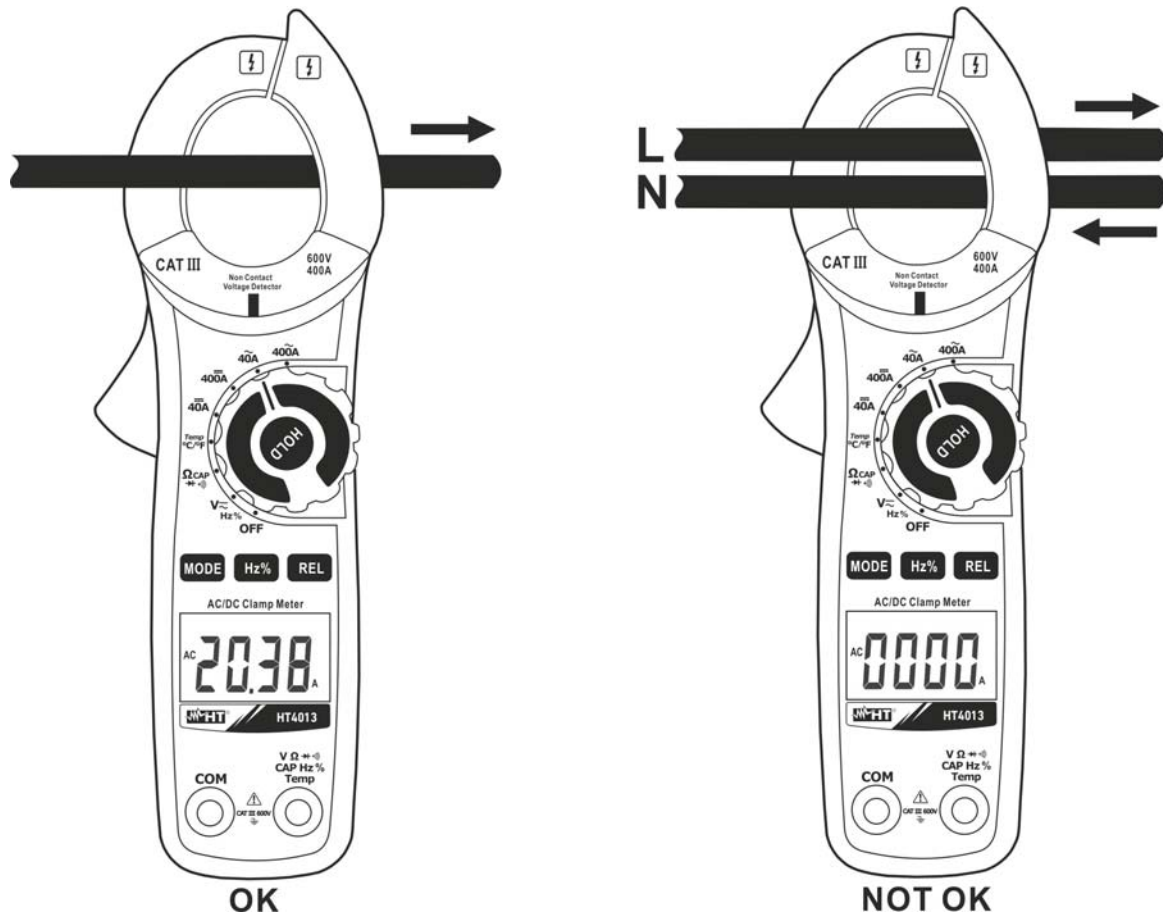

Fig. 9: Use of the clamp for AC and DC current measurement
4. On DC current measurement the “-” symbol at display means that the meter is connected in the opposite side compared with current direction (see Fig. 9)